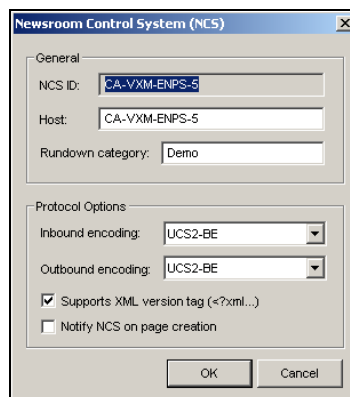

Figure 7-4. Newsroom Control System's properties
6. Specify the NCS settings for the ENPS or iNews server on the Newsroom Control System dialog box (figure 7-4).